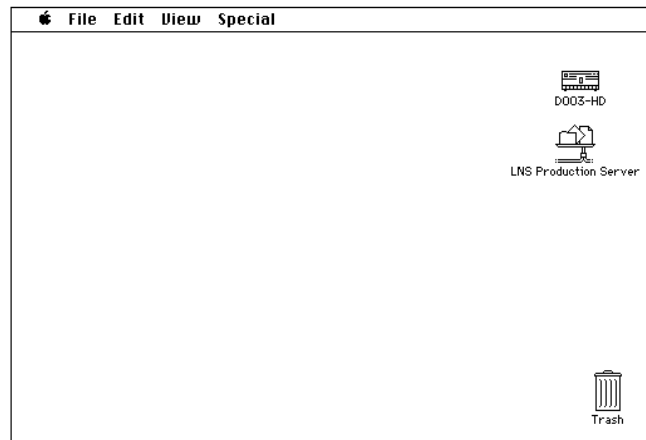

Figure 3
- 7.0 The “LNS Production Server” icon will appear. Position the mouse pointer on the icon and double click to open it. See Figure 3.